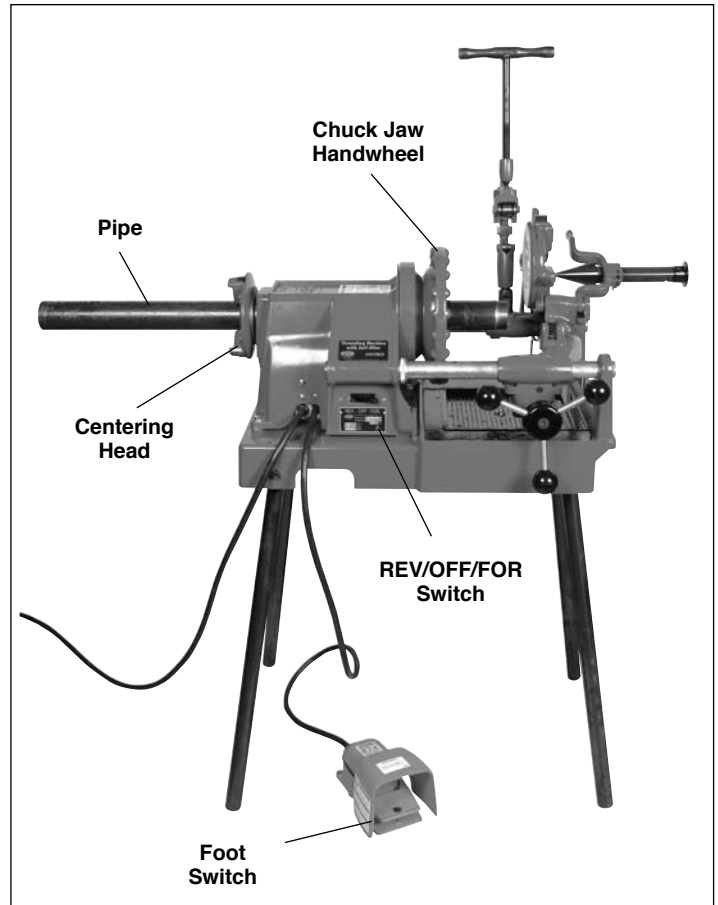

Figure 1 5401TMSO Threading machine with Self Oiler
4. Turn REV/OFF/FOR switch to FOR (reverse) position and step on foot switch to operate the machine (Figure 1).